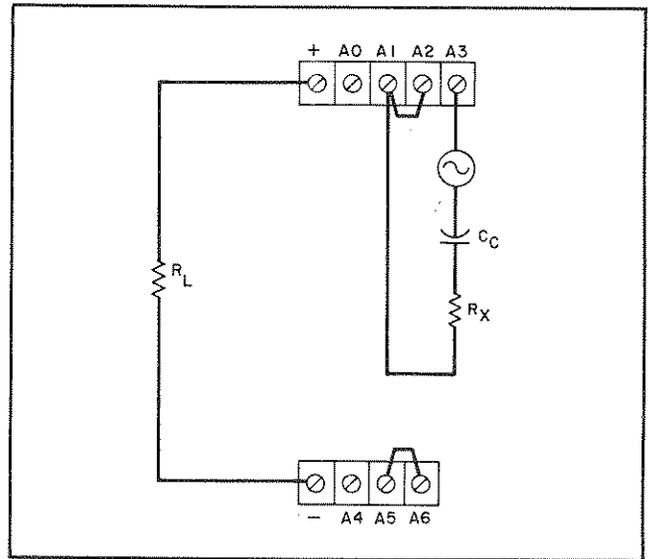

Figure 3-8. External AC Modulation
3-34 Figure 3-8 shows a method of superimposing an ac component on top of the adjustable dc output current of the supply. The dc current level is controlled in the normal fashion from the front panel, while the ac component of the output current is determined by the modulation percentage. The percentage of modulation is determined by the amplitude of the external voltage input and the value of the series resistance according to the following formula: % Modulation =  $100 \left[ \frac{E_{\text{source}} (p-p)}{R_X} \right]$  (in  $K_{\Omega}$ ). The programming voltage appearing across terminals A1 and A3 should be limited to 10V p-p and must not exceed 12 volts if damage to the instrument is to be avoided. Using the above formula, the user would require an external resistance of  $2K_{\Omega}$  and a 4 volts peak-to-peak input signal from the external source to modulate a dc current level of 50mA by 100%. In this case, the output current would swing between 100mA and zero amperes. The output current should never be
- a. Connect external modulation source, coupling capacitor, and series resistor between terminals A1 and A3 as shown in Figure 3-8.